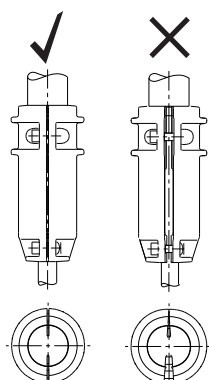

Fig. 8 Gap between coupling halves
18. Install the cylindrical pin (10) in the pump shaft (51).
20. Lubricate and tighten the screws (9), but leave loose. See section 7.2 *Lubricants*.
21. Check that the gaps on either side of the coupling halves are equal. See fig. 8.